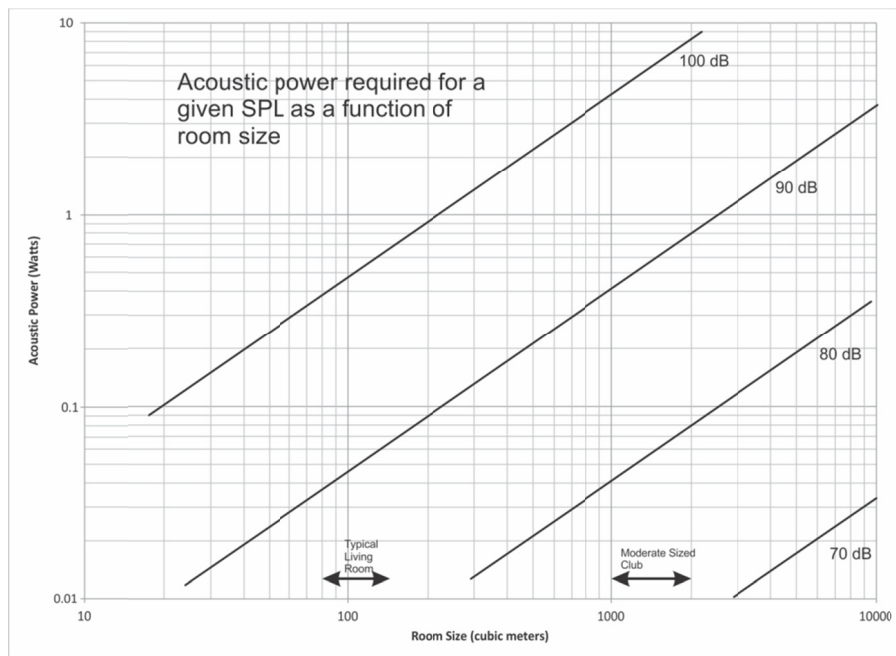

Figure 1: Acoustic Power Required for Various SPLs
3. *What level of acoustic watts is required?* Use figure 1 to find the level of acoustic watts needed. For 90 dB in a 1000 cubic meter room, we need 0.4 Watts.